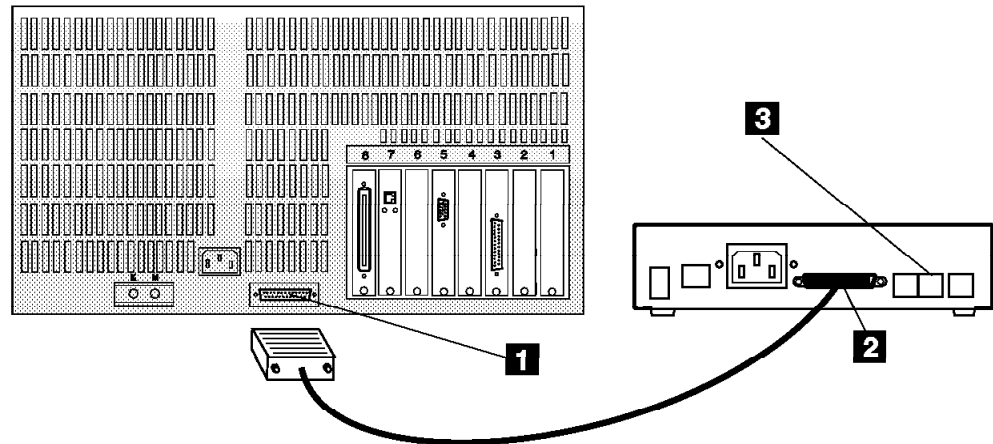

Figure 9. Connecting the Service Processor (3172) from COM1 to the 7858
- **3172**, refer to Figure 9 on page 19